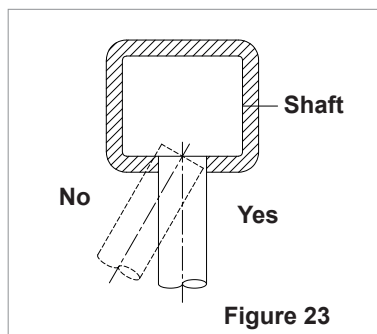

Figure 23
- The flue gas must be perpendicular to the opposite wall of the shaft (see Figure 23).